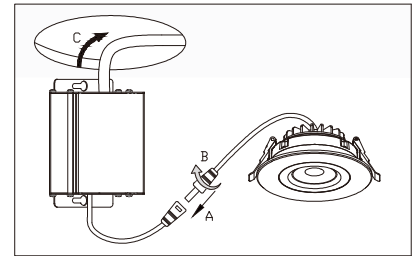

FIG. 4
7. Insert junction box through the mounting hole and secure to ceiling joist (Fig. 4).
8. Plug the connector from the fixture into the connector from the electrical box and twist as shown in Figure 4 to secure in place.